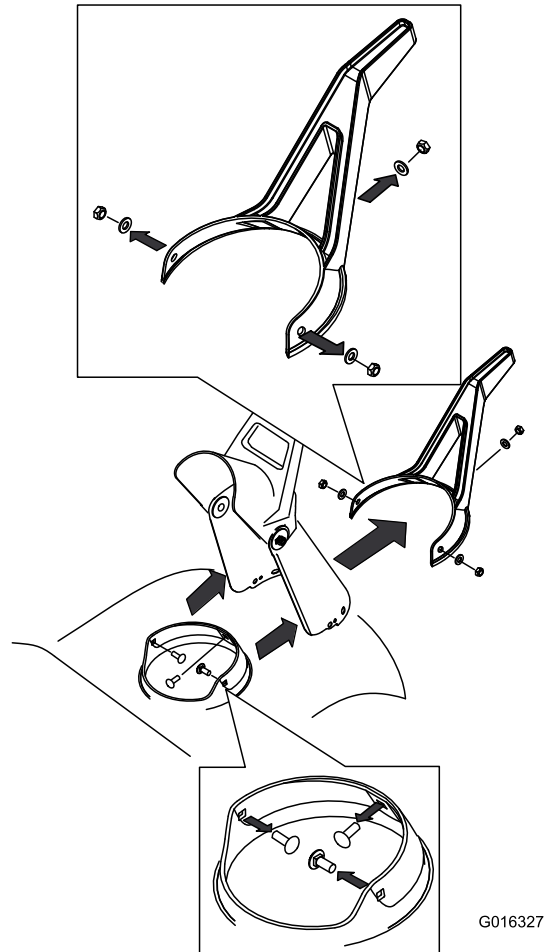

Figure 30
3. Remove the discharge chute by removing the three screws holding the chute, and the screws holding the chute seal (Figure 30).